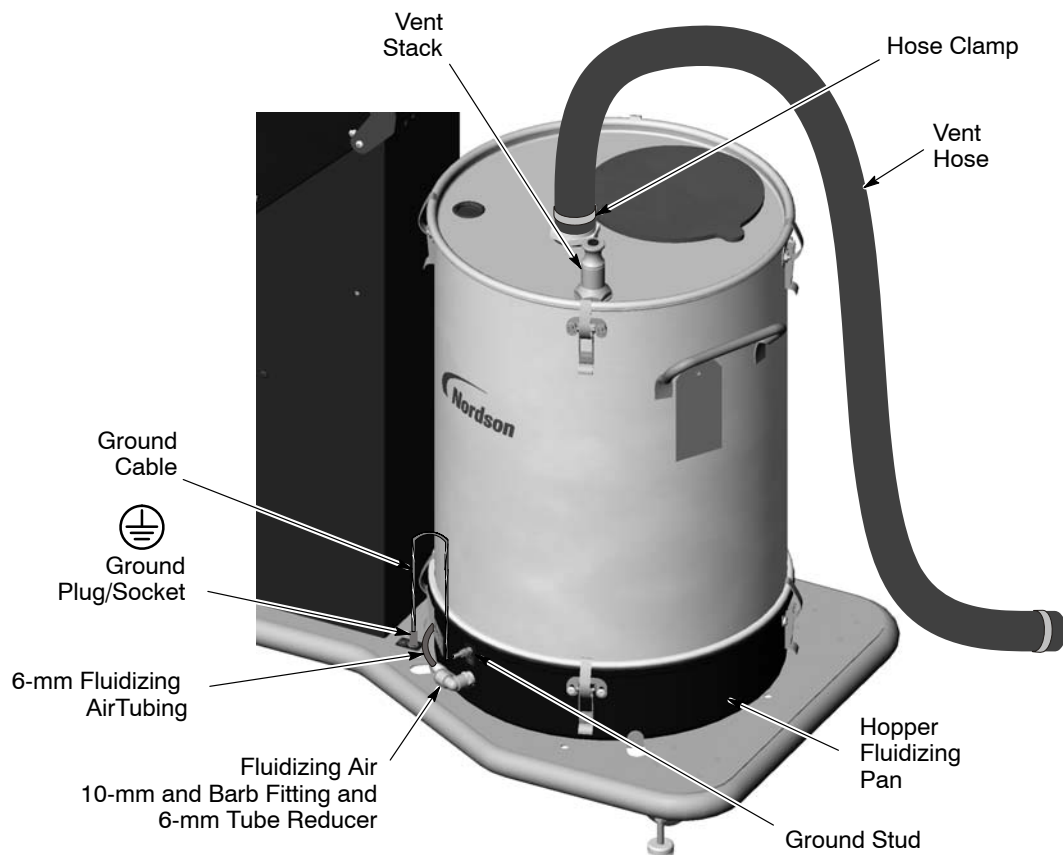

Figure 3-2 Hopper Installation on Mobile System Dolly
1. See Figure 3-2. Unclamp the hopper lid and remove the vent hose and hose clamps.